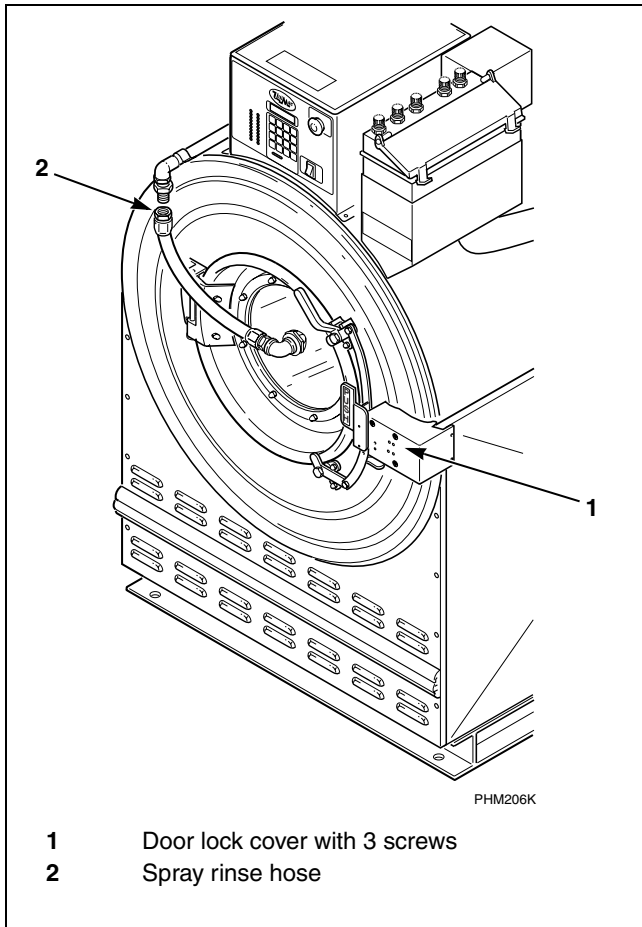

Figure 27
- a. Remove the three screws and the door lock cover from the front of machine. Refer to *Figure 27*.
- b. Disconnect the spray rinse hose from the spray tube assembly. Refer to *Figure 27*.